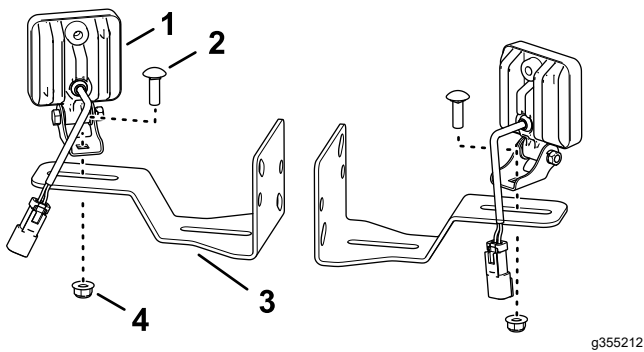

Figure 1
1. Assemble the LED light to the light-mount bracket with the carriage bolt (5/16 x 1 inch) and flange locknut (5/16 inch) as shown in Figure 1.